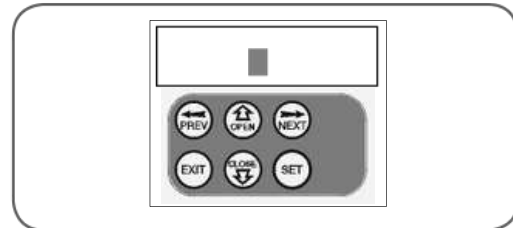

fig 25
2. Press UP or DOWN to change the displayed value (**Fig. 25**). The available functions are shown below. Selecting OFF will prevent the opener responding to that button.
3. Press SET to save changes or press NEXT or PREV to move to next field. The example in (**Fig. 25**) shows that PED is assigned to the transmitter button 2. The transmitter in the example is transmitter number 12 which has the ID label AB Smith.